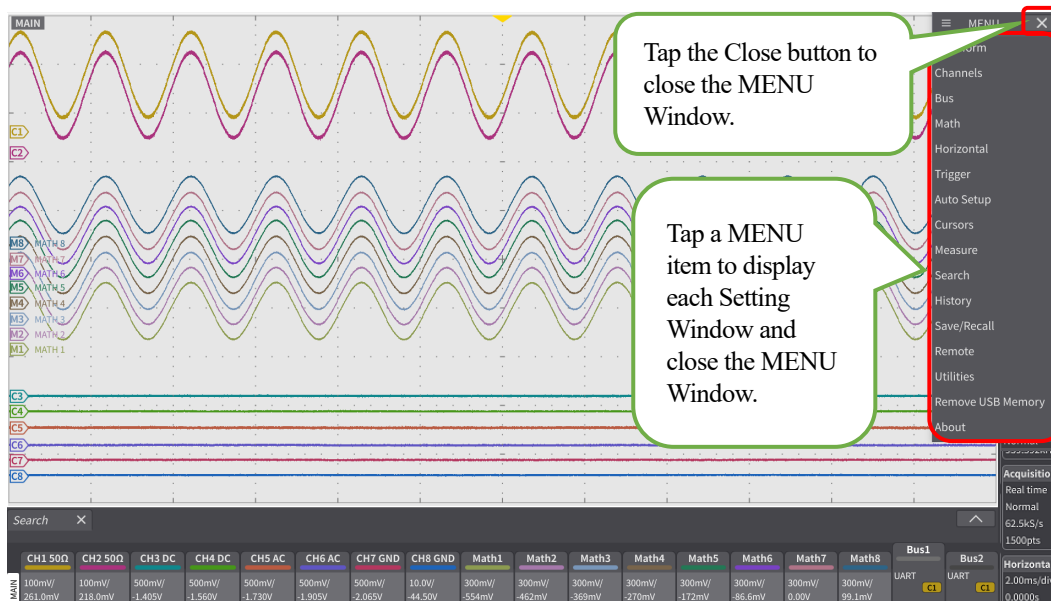

Figure 1.10 Screen (MENU button and MENU Window)
- By tapping the MENU button on the upper right of the screen, the MENU Window shown in Figure 1.10 and Table 1.5 is displayed.